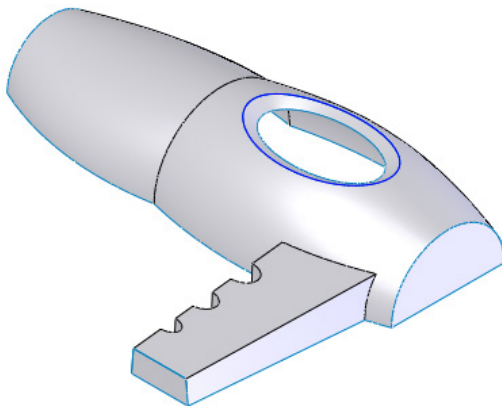
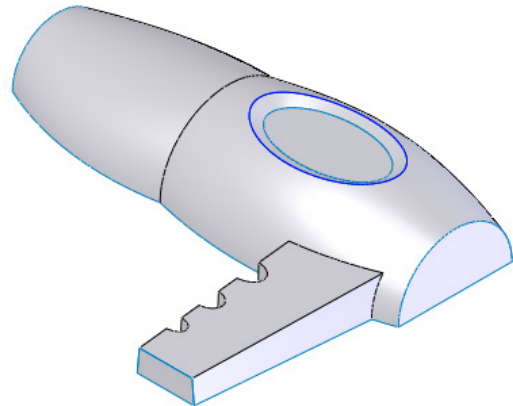

Figure 1-157 Model after trimming the surface
Figure 1-158 Planar surface
8. Invoke the **Trim Surface** tool and trim the base surface using the newly created lofted surface. The model after trimming the surface is shown in Figure 1-157. Next, create the planar surface by using the **Planar Surface** tool, as shown in Figure 1-158.